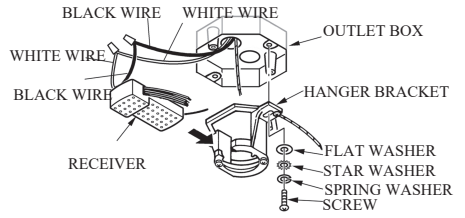

FIG.6
1. Securely attach the hanger bracket to the outlet box by washers and screws supplied. Connect white wire from ceiling to white wire from receiver with wire nut. Connect black wire from ceiling to black wire from receiver with wire nut. (See Fig. 6)